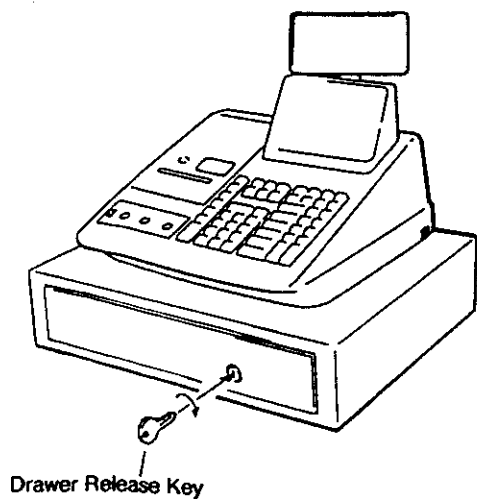

Fig. 1
- 1) Insert the Drawer Release Key into the drawer release lock and turn the key clockwise. The drawer will then open. (Fig. 1)